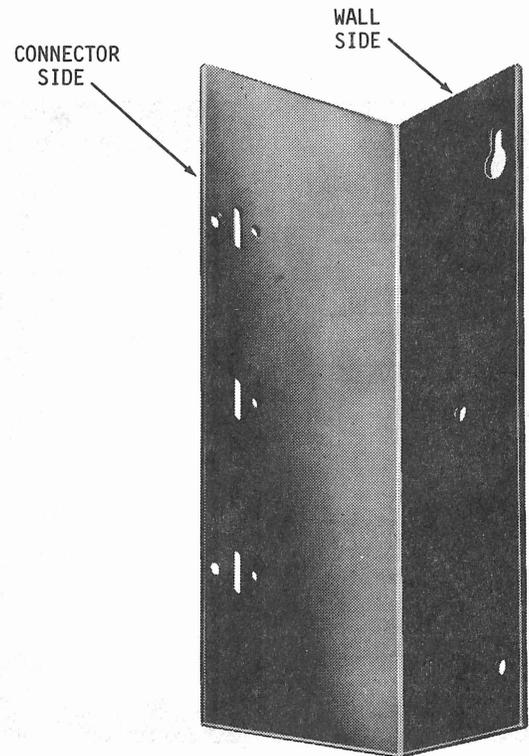

Figure 41. Wall Mounting Bracket
25.01 This Wall Mounting Bracket is used to mount a C-377 Connector on a wall or other flat surface (see figure 41).